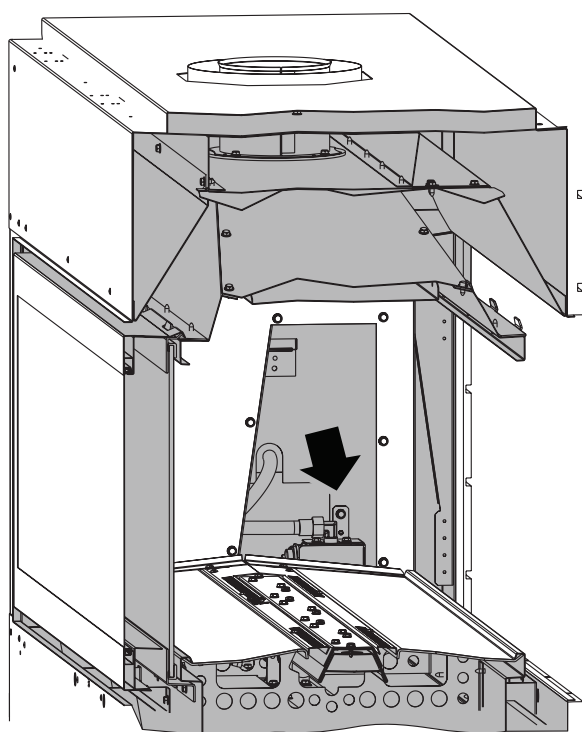

Figure 99
6. If necessary, remove the valve from the firebox wall by removing the screw shown in Figure 99.